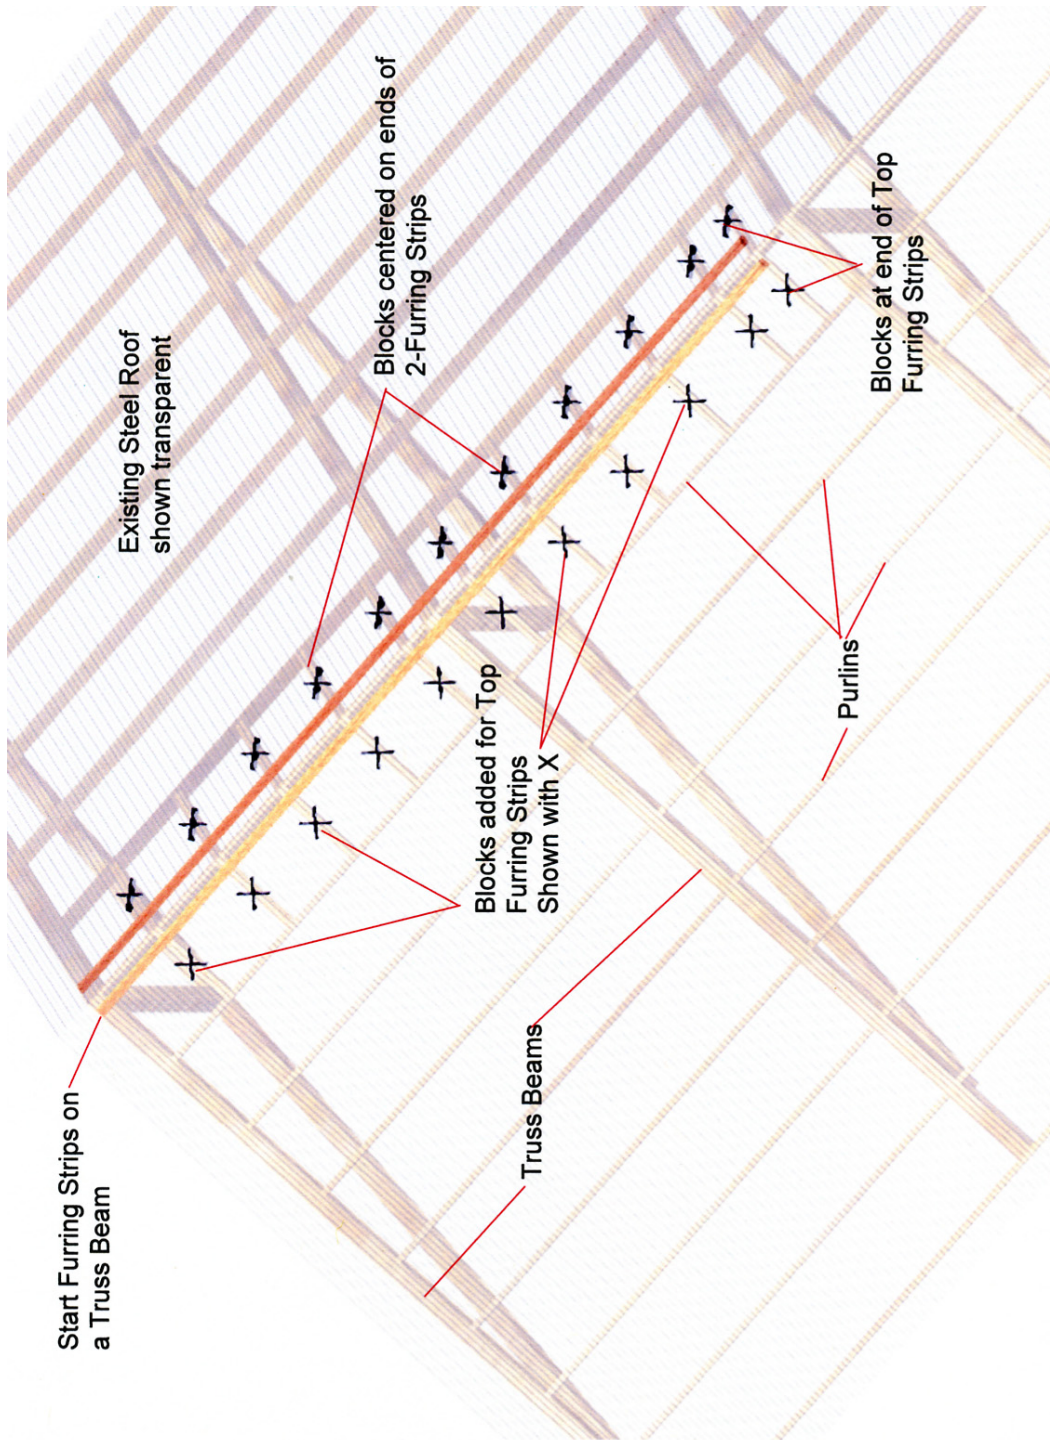

Figure 4.3; Furring Strip Location
Step 1: Install blocks on the underside of the roof (inside) for the Top Furring Strip; see Figure 4.3 on page 4-3. These blocks should be 16-24 inches (40.6-61 cm) apart.